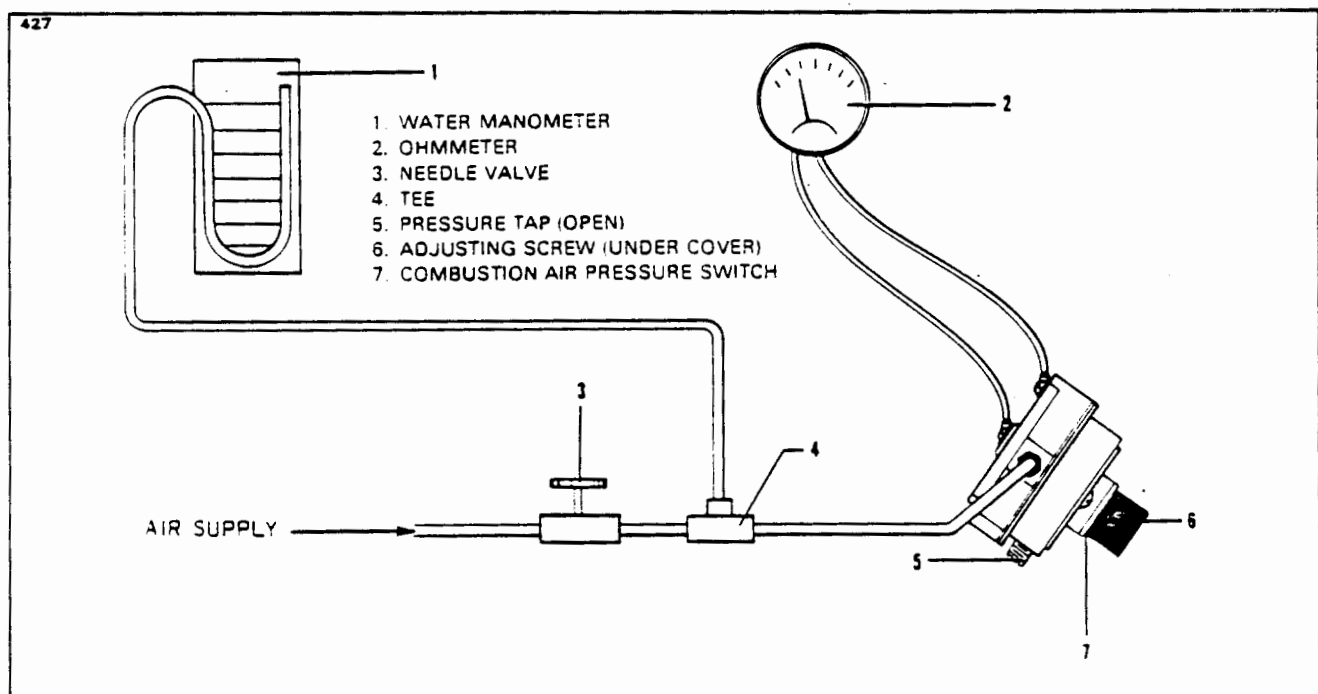

Figure 21-17. Test Setup for Combustion Air Pressure Switch
4. The combustion air pressure switch must respond to delicate pressure changes and should always be checked and, or replaced at overhaul. (Refer to Figure 21-17.)
- A. Connect an adjustable air pressure line that can be controlled in a range of zero to 5.0 psi (maximum) of water to the switch opening with a water manometer and needle valve in the line ahead of switch. Switch must be tested in 45 degree position as shown in Figure 21-17.